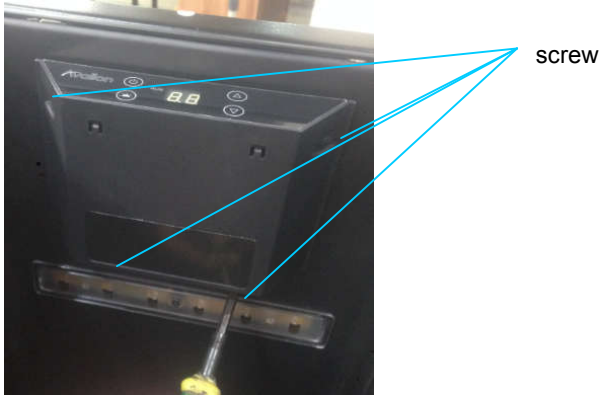

Figure 14
3. Unplug all cable connectors. (figure 14)